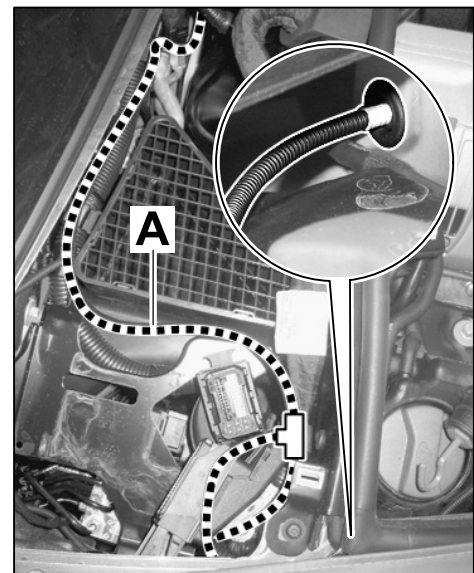

Figure 17
- 4.3.3 Route electric line $\Rightarrow$ *Figure 17 -A-* through the bulkhead to the air-conditioning pressure switch.